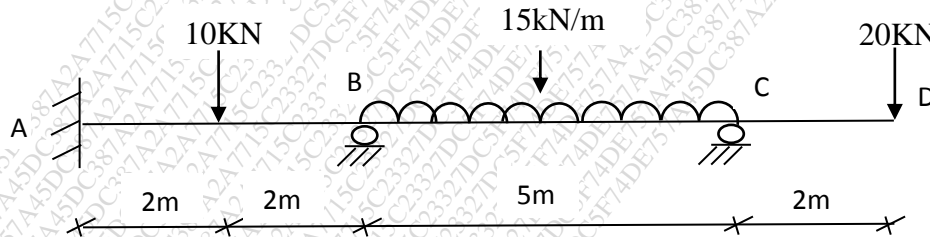

Fig. 1
- Q.2 Analyze the continuous beam show in fig. 1 using slope deflection method. EI is constant and draw BMD. 15